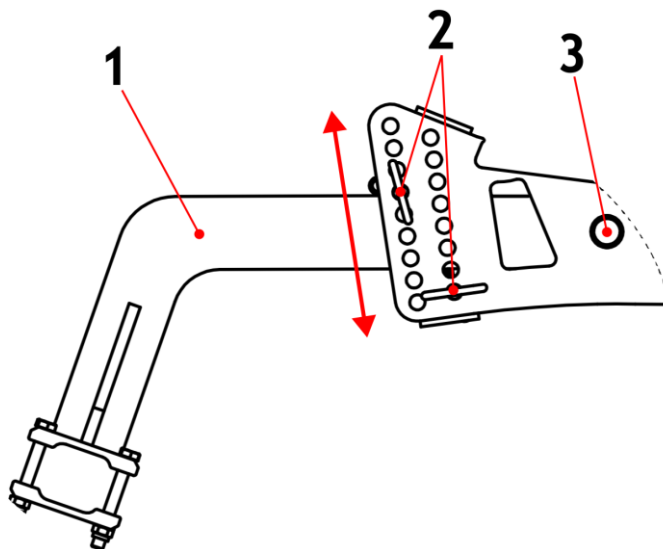
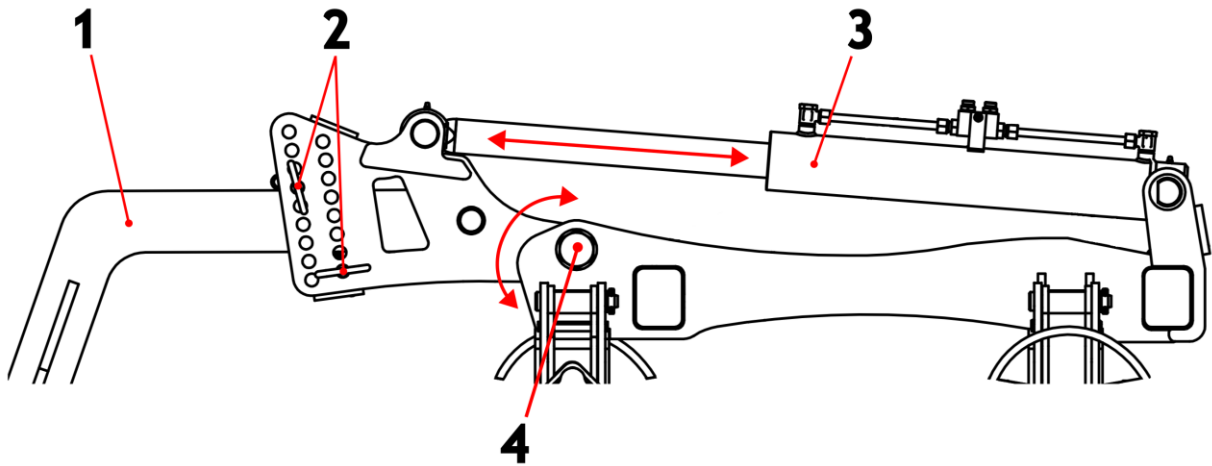

Figure 32 Roller arm attachment (1 - roller arm, 2 - work depth adjustment pins, 3 - hole for pin attaching arm to frame mount)
Figure 33 Hydraulic roller lift (1 - roller arm, 2 - working depth adjustment pins, 3 - actuator, 4 - arm pivot pin)
The working depth of the GAL-E disc harrow is determined by the position of the roller, whose arms are locked in the holders with pins (fig. 32, item 2). Initially, the roller should be set above the lower edge of the discs at a height that roughly corresponds to the anticipated working depth, and the setting should be adjusted during the work once the roller's settlement has been taken into account. A hydraulic lifting system is used to change the position of the roller (fig. 33). To raise the roller, the piston rod of the actuator must be pushed in (fig. 33 item 3), and when the roller needs to be lowered, the piston rod must be pulled out. Any movement of the roller during operation is prevented by pins in the ladders (fig. 32 item 2).